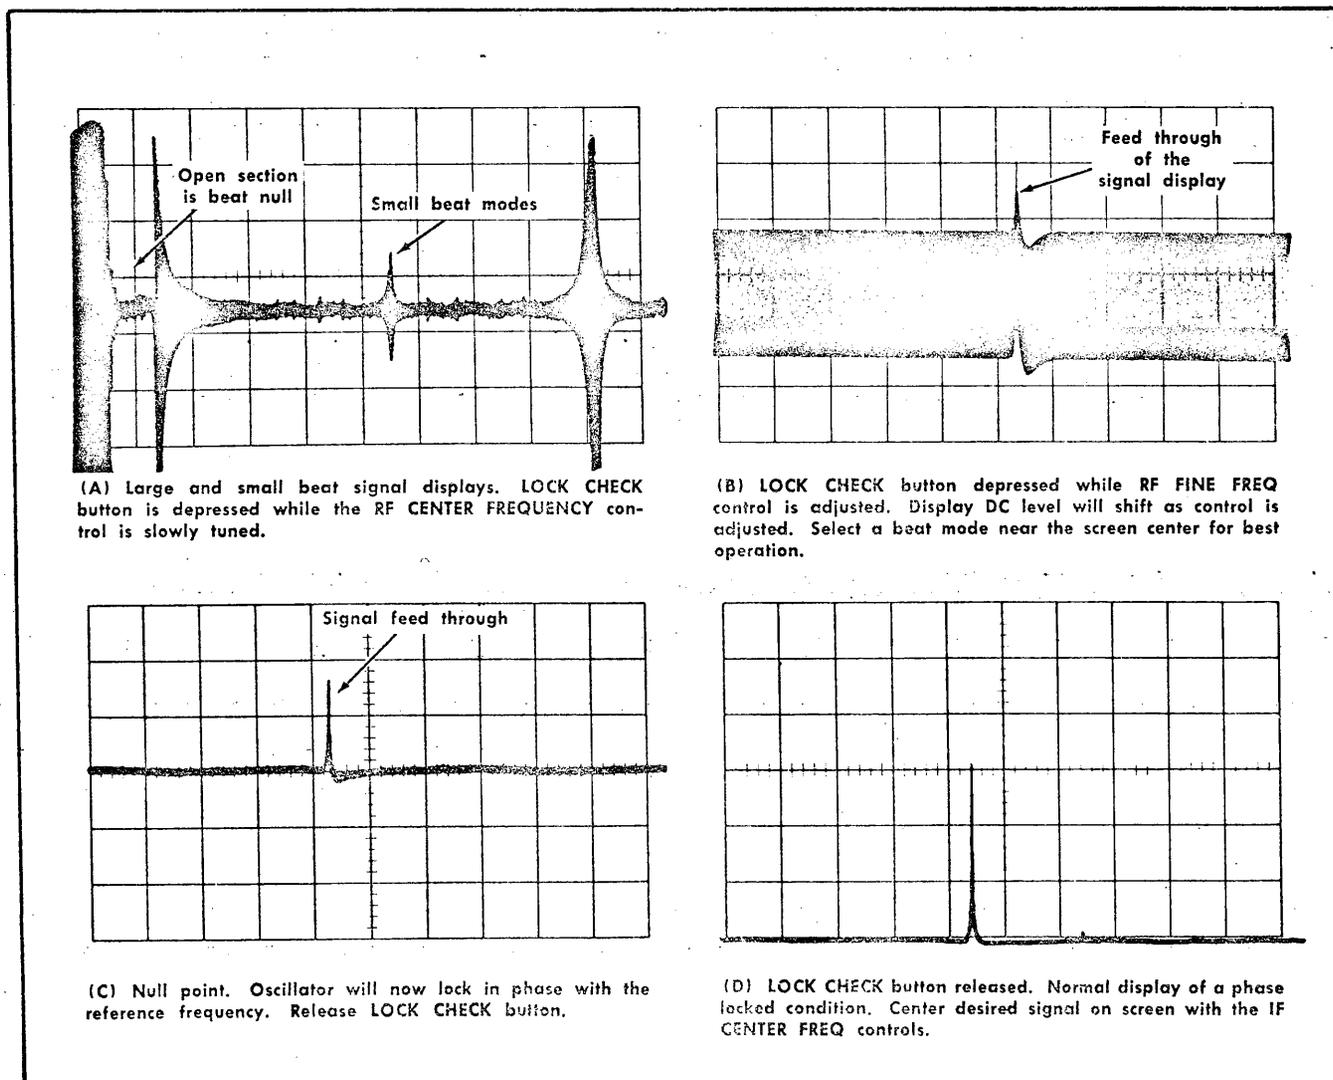

Fig. 2-5. Lock check displays.
14. Push the LOCK CHECK button and tune the RF CENTER FREQ control slowly through the signal frequency. Note the phase lock beat signals between the tunable local oscillator and the Internal Reference Frequency oscillator, as the display blooms then snaps into the phase lock operation (Fig. 2-5).
The circuit will phase-lock the tunable local oscillator to any externally applied signal with an amplitude of 1 to 5 volts peak to peak and within the frequency range of 1 MHz to 5 MHz. The external signal is applied to the EXT REF FREQ IN connector when the INT 1 MHz REF FREQ switch is placed in the OFF OR EXT (REF FREQ IN) position. Fig. 2-5 illustrates the displays produced with the LOCK CHECK button depressed as the tunable local oscillator is tuned through the phase lock beat modes by the RF CENTER FREQ control. The small signal beats between the larger beat signals will usually phase lock the oscillator; however, this lock may not be as stable.
If the beat indication is outside the center area of the graticule, adjust the FINE RF CENTER FREQ control to center the trace, then adjust the RF CENTER FREQ control to shift the signal towards a beat mode (Fig. 2-5) where phase lock operation can be achieved within the dynamic range of the amplifier. Adjust the FINE RF CENTER FREQ control for a phase lock condition then release the LOCK CHECK button.